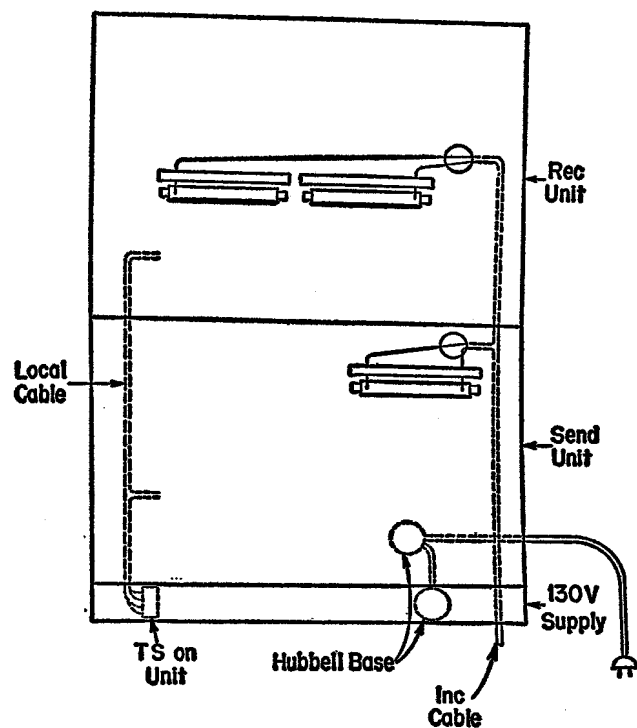

Fig. 1 — Cabling of Sending and Receiving Units
3.01 Combine and sew or tape the leads provided on the sending and receiving units for connection to the 130-volt power unit and run vertically to terminal strip of power unit as shown in Fig. 1. Connections to terminal strip should be made in accordance with SD-69168-01.
3.02 The wiring to the screw-type terminal strips mounted on the front of the sending and receiving units shall be run through the insulated entrance hole located above and to the right of the terminal strip and fanned to the proper fanning strip holes, leaving sufficient slack as shown in Fig. 1.